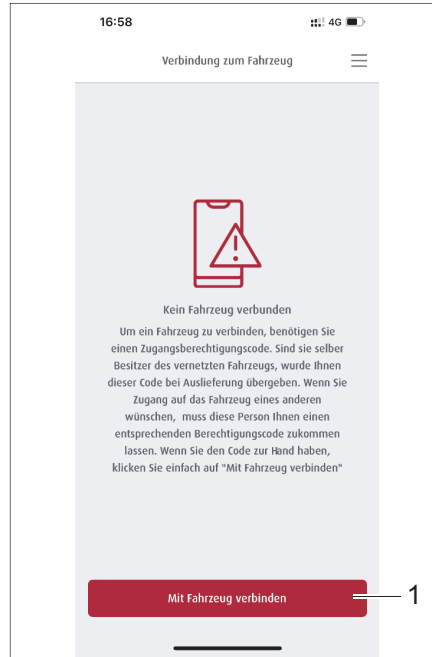
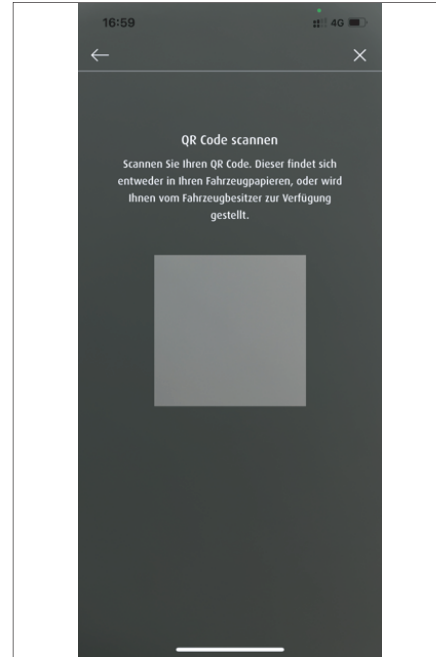

Fig. 285 Connecting to the vehicle
Fig. 286 Scan vehicle QR code
- Click on the *Login* (Fig. 284,1) button. The vehicle connection menu will appear (Fig. 285). Any vehicles that have previously been connected are listed here.
- Click on the *Connect with vehicle* (Fig. 285,1) button. The scan QR code menu option will appear (Fig. 286).